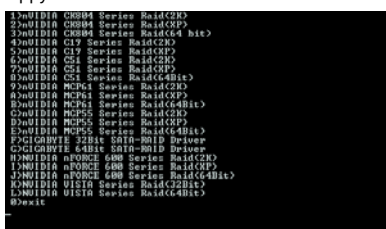
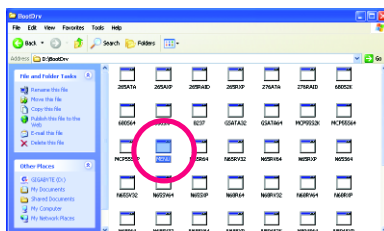

Figure 2
Figure 3
Step 2: When the controller menu (Figure 2) appears, remove the startup disk and insert the blank formatted disk. Select the controller driver by pressing the corresponding letter from the menu. In the example in Figure 2, the **NVIDIA MCP61 Series Raid** series are for the NVIDIA® GeForce 6100/nForce 430 chipset. For example, to install Windows XP (32-bit) onto the RAID drives, press <A> to select **A)nVIDIA MCP61 Series Raid(XP)**. The **B)nVIDIA MCP61 Series Raid(64Bit)** is for Windows XP 64-bit and **9)nVIDIA MCP61 Series Raid(2K)** for Windows 2000. Your system will then automatically zip and transfer this driver file to the floppy disk. Press <0> to exit when finished.
Use an alternative system and insert the motherboard driver disk. From your optical drive folder, double click the **MENU.exe** file in the **BootDrv** folder (Figure 3). A command prompt window will open similar to that in Figure 2.